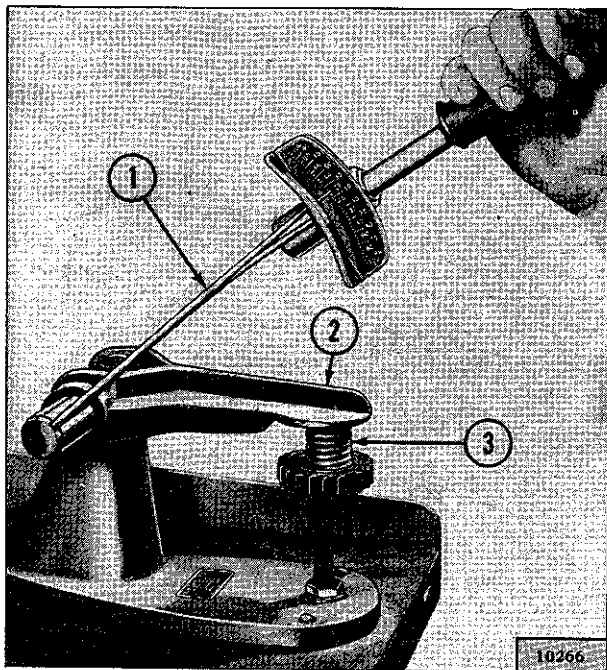

FIG. 110—TESTING VALVE SPRING
[63,5 mm.] for exhaust valve springs. If possible, check each valve spring in a valve spring testing fixture as shown in Fig. 110. Test each spring when compressed to the two different spring lengths given (representing valve closed and valve open spring length). If any spring fails to register spring tension equal to or greater than the minimum load limit in pounds specified for that spring length, replace the spring.
**NOTE:** When using a spring checking fixture as shown in Fig. 110, it is necessary to convert the torque wrench reading which is in pounds-feet to the static pound pressure specified above according to the instructions furnished with the wrench. For example, should the torque wrench reading be 50 lb.-ft. and the wrench is two feet long the static pressure of the spring will be 50 x 2 or 100 lbs.